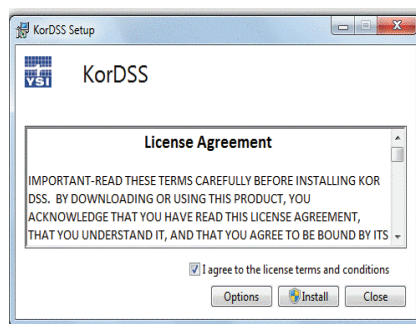

Figure 80 KorDSS license agreement
4. Check the license agreement box. Click **Install** (Figure 80).